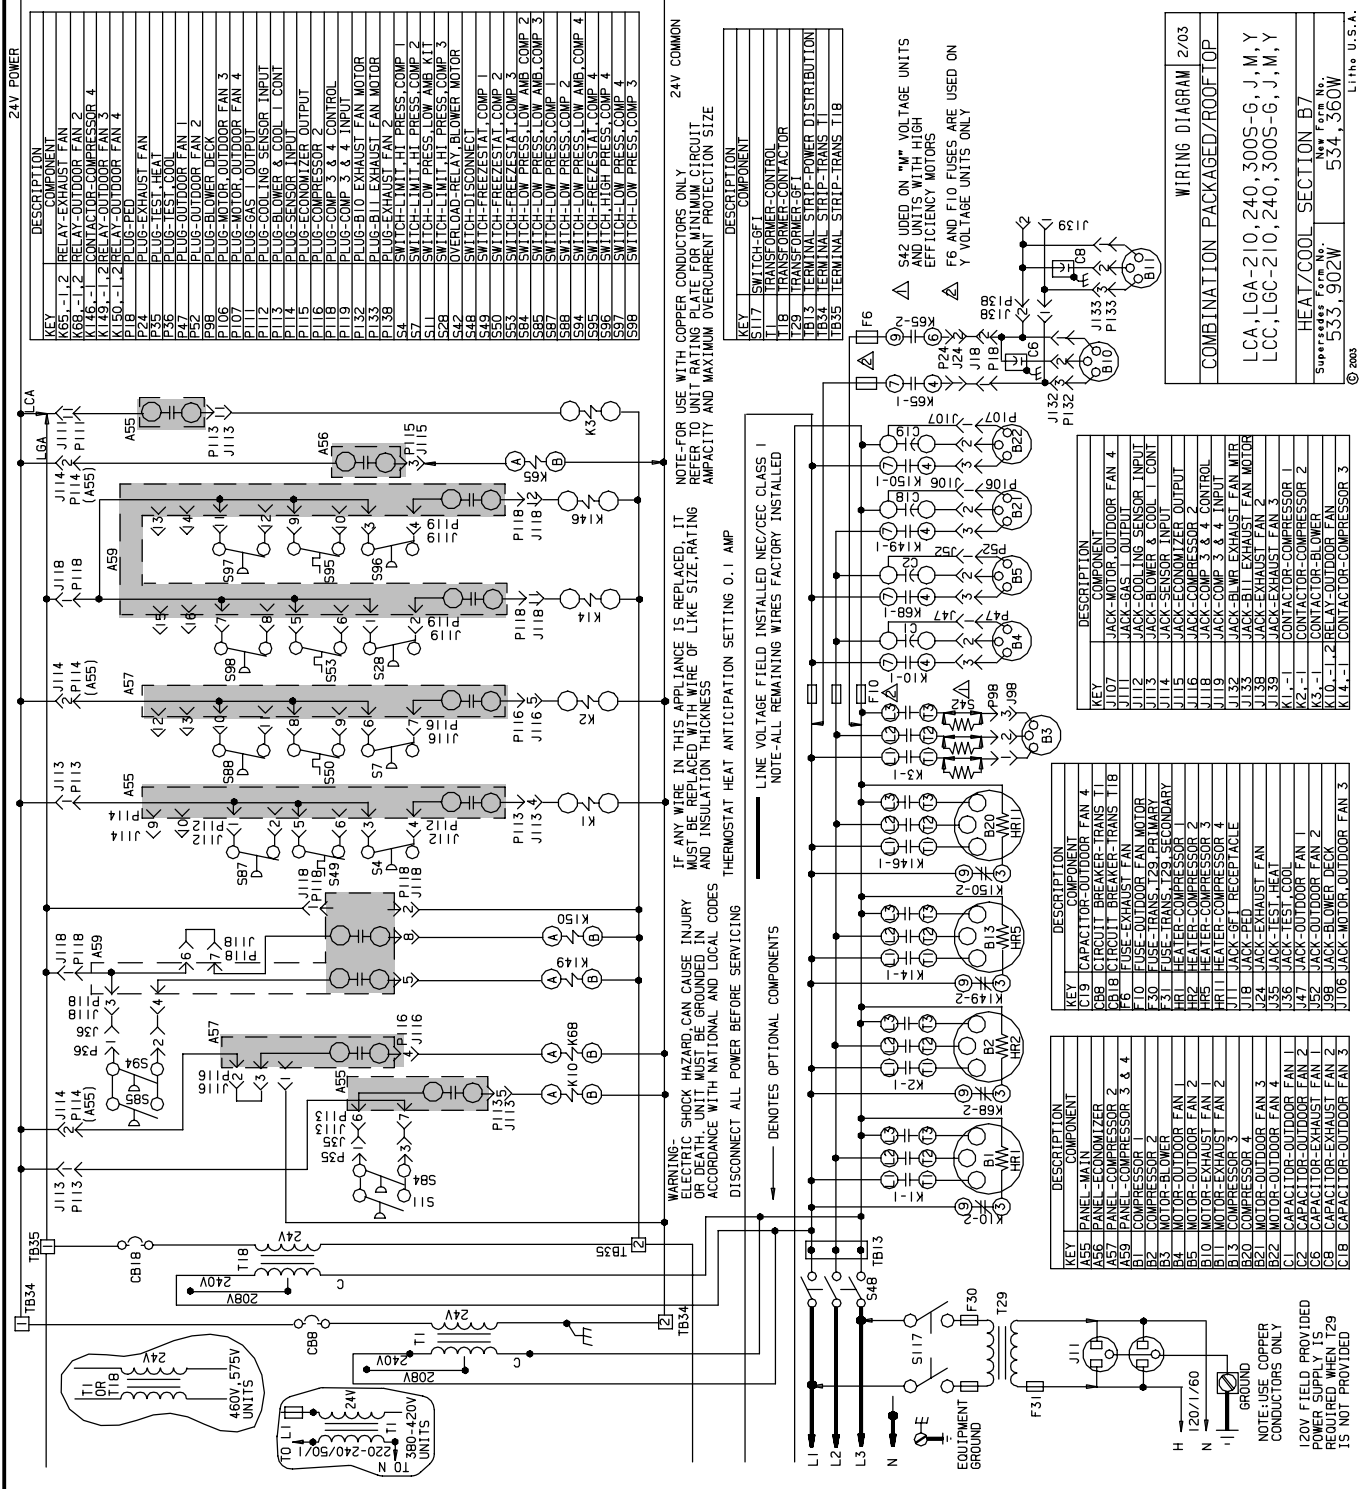
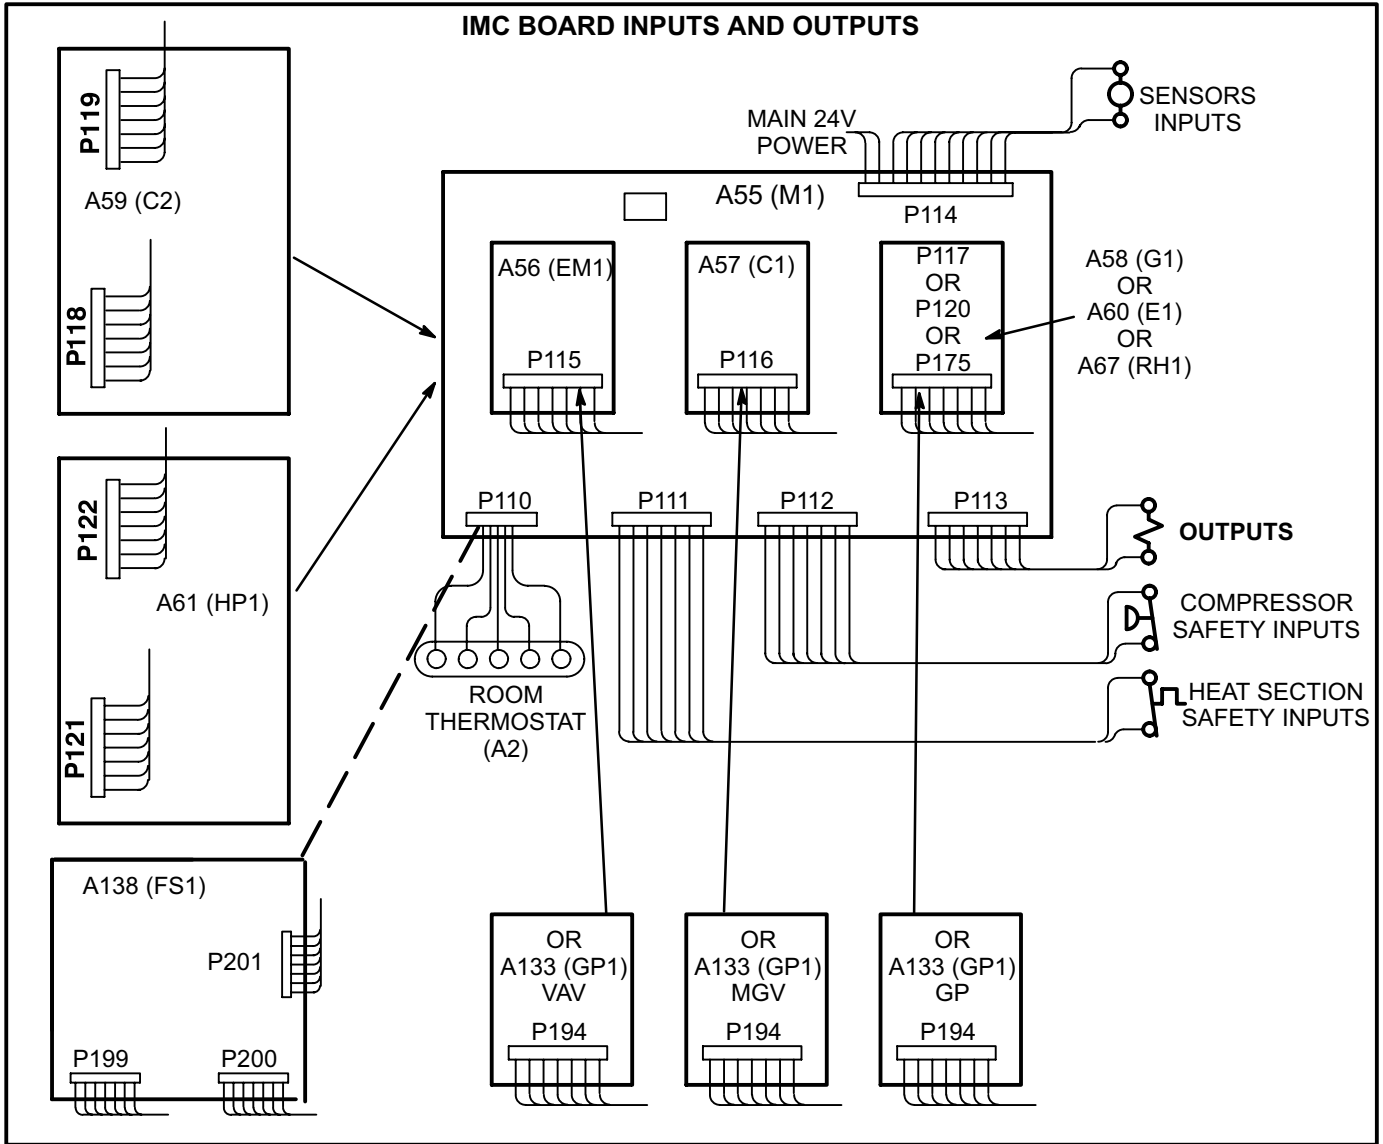

FIGURE 61
FIGURE 62
When necessary, individual inputs and outputs may be read at the IMC board connectors. IMC boards are shown on wiring diagrams as dashed boxes. See shaded areas in figure 61. Parts of the IMC boards will be located in all wiring diagram sections. See figure 62 to find the jack/plug connector on the IMC board(s). Use table 49 in this section for a description of each pin number, a description of the input or output, and the type of input or output.
- 1- Using the unit wiring diagram and figure 62, locate K3 and identify appropriate IMC board and jack/plug. (A55 main board and J/P113-11.)